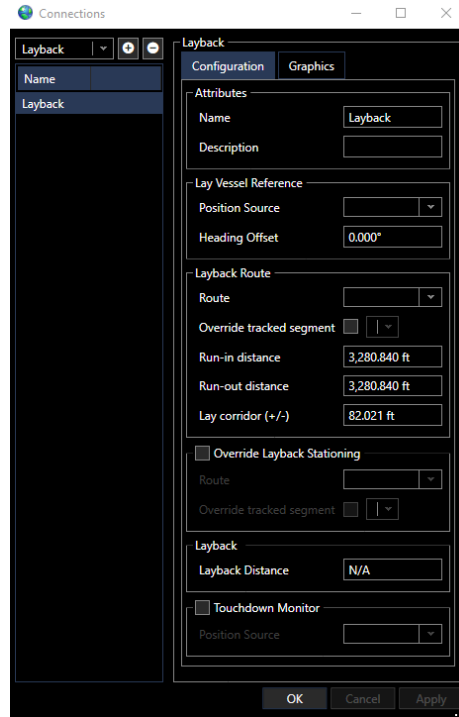

FIGURE 15-26 CONFIGURE LAYBACK CONNECTION DIALOG
- a. **Configuration Tab** allows for editing the various pipeline characteristics for the layback connection (see Figure 15-26)